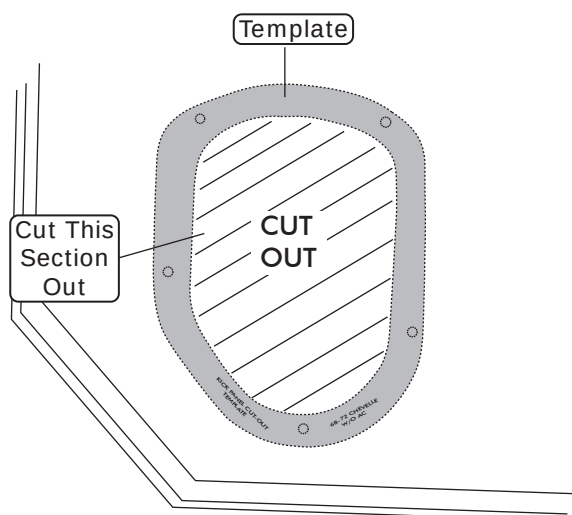

Figure 2a
4. Cut the fresh air door assembly as shown in Figure 2a, below.